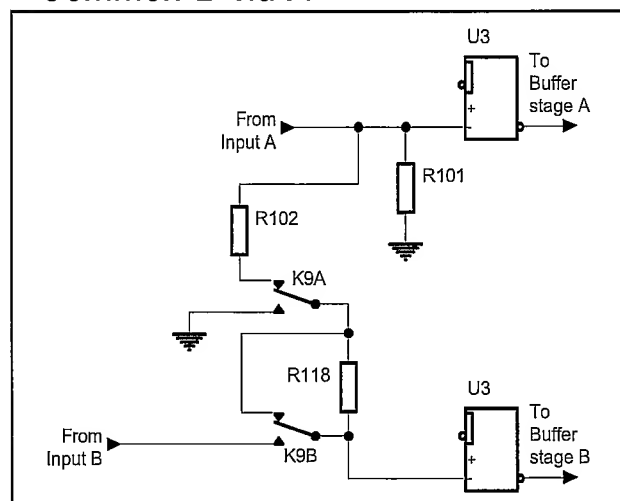

Figure 4-7 Common B via A.
The output signal from V23/ V26 can also be fed to the B-channel comparator, (see Figure 4-7). This is done in Common B via A mode. Relay K9A and K9B connects the comparator inputs pin 7 (A) and 10 (B) in parallel. Simultaneously relay K9B disconnects the output signal from input B to the B-channel comparator. In separate mode, the relays connect the output signal from input B to B-channel comparator input pin 10 (K9B), and disconnect the signal from input A to the B-channel comparator pin 10 (K9A).